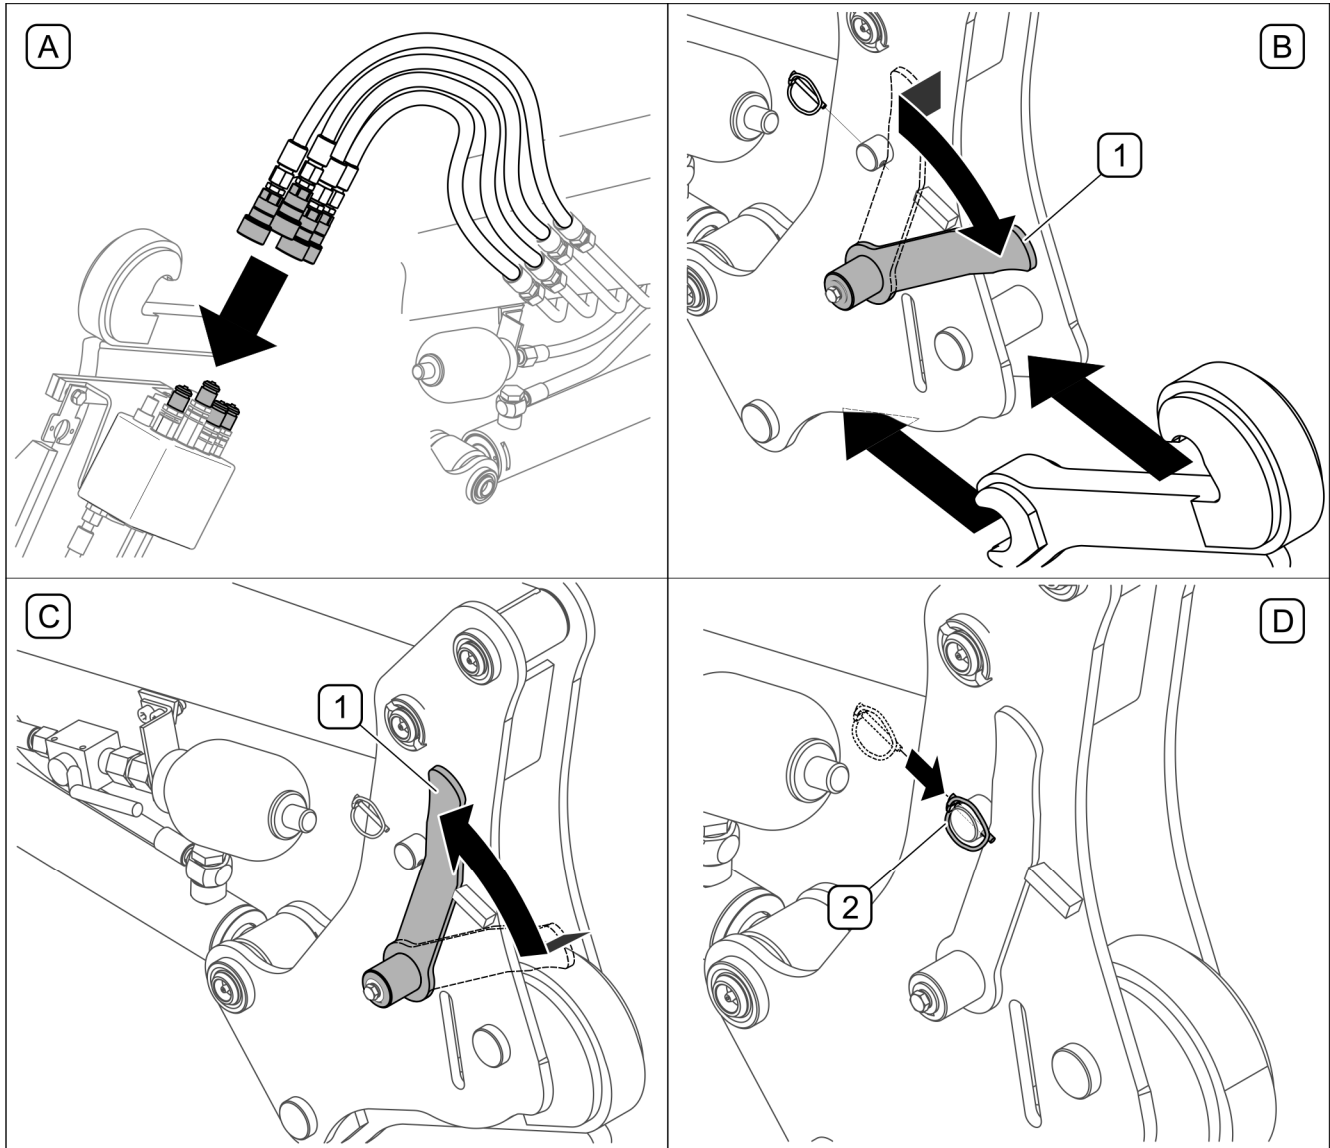

FIGURE 4.19 Connecting front loader arm to support frame
- connect the loader's hydraulic conduits properly to hydraulic manifold (A, FIGURE 4.19),
- check whether both levers (1) of quick coupler lock are in open position (to the rear) (B, FIGURE 4.19)
- move levers (1) forwards (closed position) (C, FIGURE 4.19)
- secure both levers with cotter pins (2) (D, FIGURE 4.19)